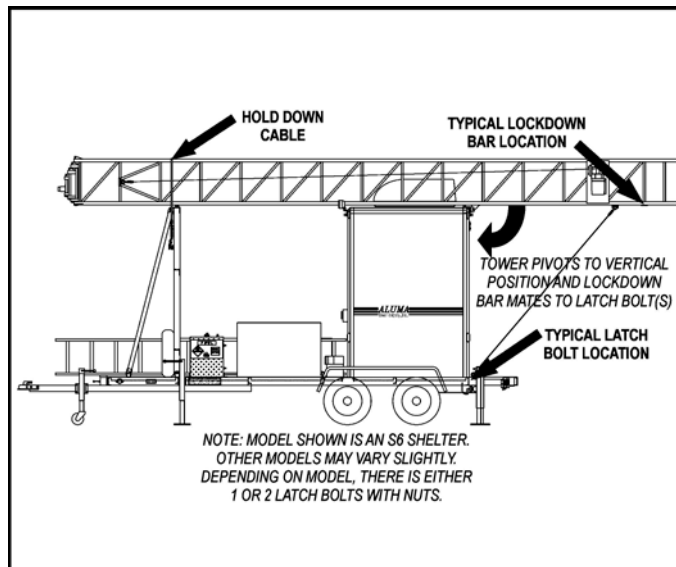

Fig. 7 Trailer Tower Component Locations
1. While the tower is still in the horizontal position, loosen and remove the hold down restraining cables that hold the tower in place for transporting. These cables are located on the front support of the trailer and/or shelter(see Fig. 7).
2. Using the manual brake winch on the rear support, crank the tower from the horizontal to the vertical position. At the halfway position undo the nut(s) from the latch bolt(s) at the bottom rear of the trailer frame (*see Fig. 7*).
3. Secure the tower in the vertical position with the tower lockdown bar pivoting over the latch bolt(s) on bottom of rear trailer frame (*see Fig. 7*). Tighten the nut(s) with wrenches supplied in tool kit, TM-TK which is stored in the #664 or #684 storage box. Drive all three “Duckbill Ground Anchors” into the ground as described in the attached instructions, AT-418-1.